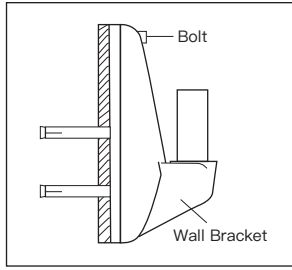

Fig. 5
4. Attach the wall bracket to the wall plate and tighten the bolts (See Fig.5).